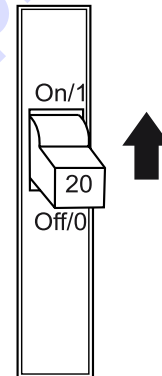

Figure 68. GFCI Circuit Breaker
2. Place a GFCI circuit breaker (Figure 68) in the **ON** position.